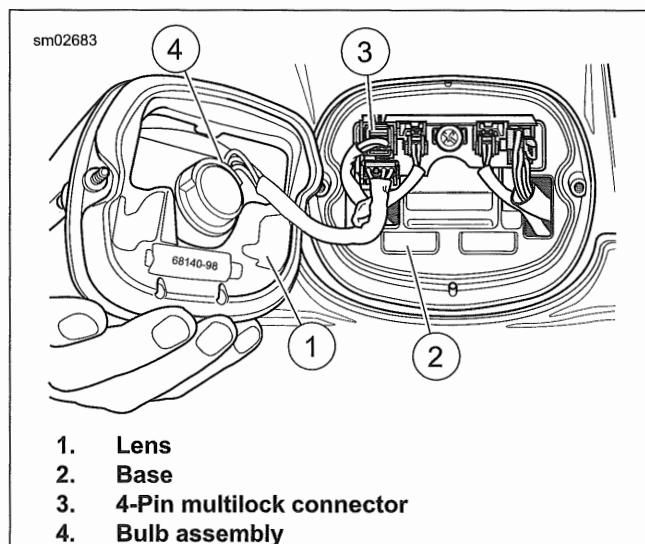
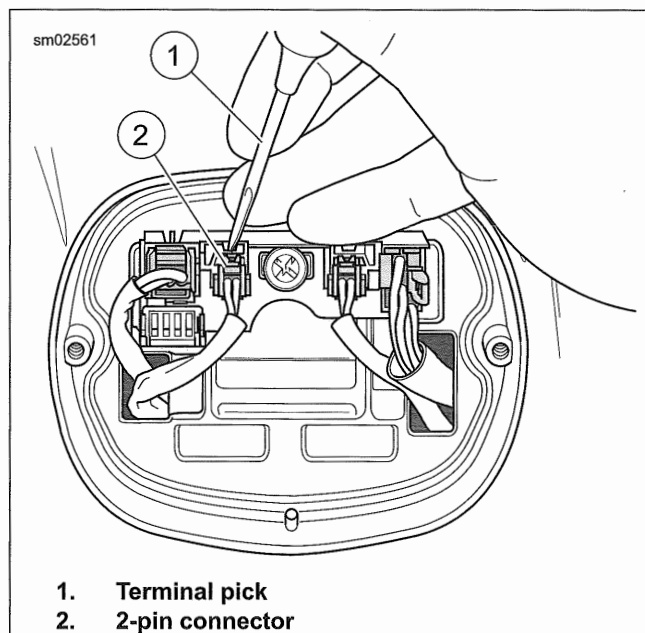

Figure 7-86. Standard Tail Lamp
Figure 7-87. Removing 2-Pin Connectors
1. See Figure 7-86. Remove screws and lens (1).
2. Disconnect 4-pin multilock connector (3).
3. See Figure 7-87. Disconnect two 2-pin connectors (2).